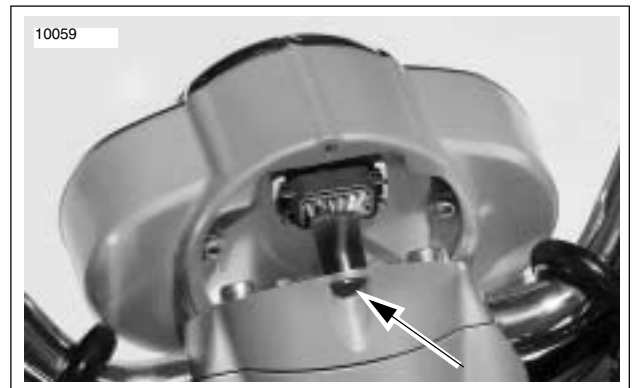

Figure 1-16. Instrument Cluster Mounting Screw Location
2. See Figure 1-16. Remove instrument cluster screw from location shown and pivot instrument cluster away from handlebars.